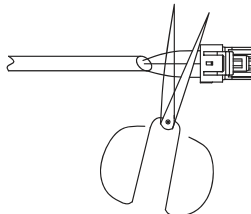

Fig. 29 —Shearing Outdoor Connector
1. Cut connector on outdoor unit side (Fig. 29).